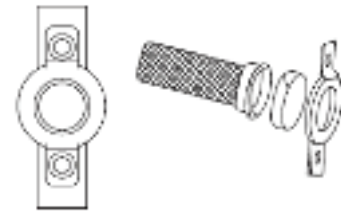

Figure-17 Spark Arrestor Screen
- To service spark arrestor See figure-17. Remove the clamp to remove retainer.